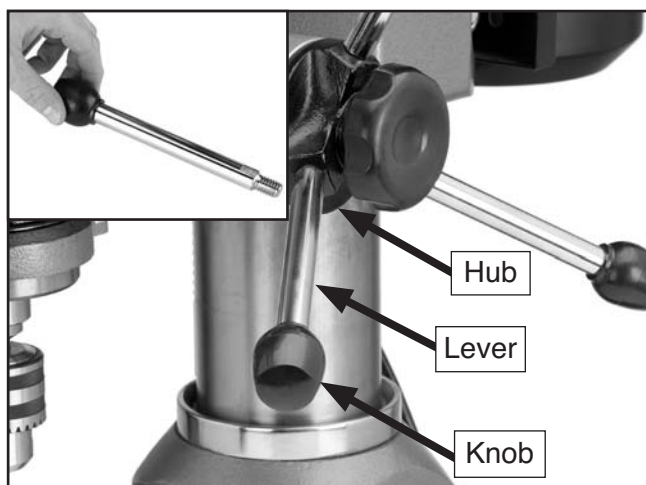

Figure 21. Feed levers.
2. Screw the levers with knobs into the threaded holes on the hub, located on the right side of the machine (**Figure 21**).